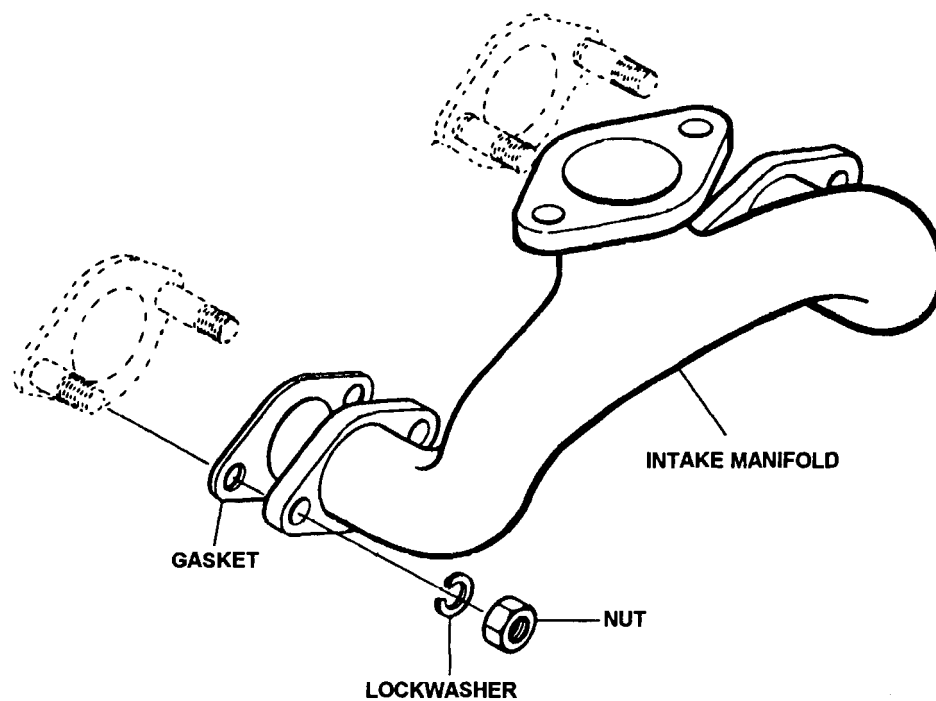

Figure 4-35. Intake Manifold, Removal and Installation
- (1) Refer to paragraph 4-51 and remove air cleaner assembly.
- (2) Remove nuts and Lockwashers (Figure 4-35) to remove intake manifold and gaskets. Discard gaskets.
- (1) Position new gaskets and install intake manifold (Figure 4-35), install lockwashers and nuts. Torque nuts 35 lbs-ft.
- (2) Refer to paragraph 4-52 and install air cleaner assembly.
- (1) Position new gaskets and install exhaust manifold (Figure 4-35), with washers and nuts.
- (2) Refer to paragraph 4-53 and install the muffler.